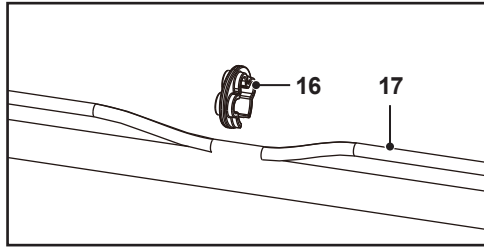

Fig. 3
6. Secure the inter-connection cord (17) with two wire clips (16) (Fig. 3). Pull the inter-connection cord (17) to avoid contact with the rear wheel (11) if necessary.